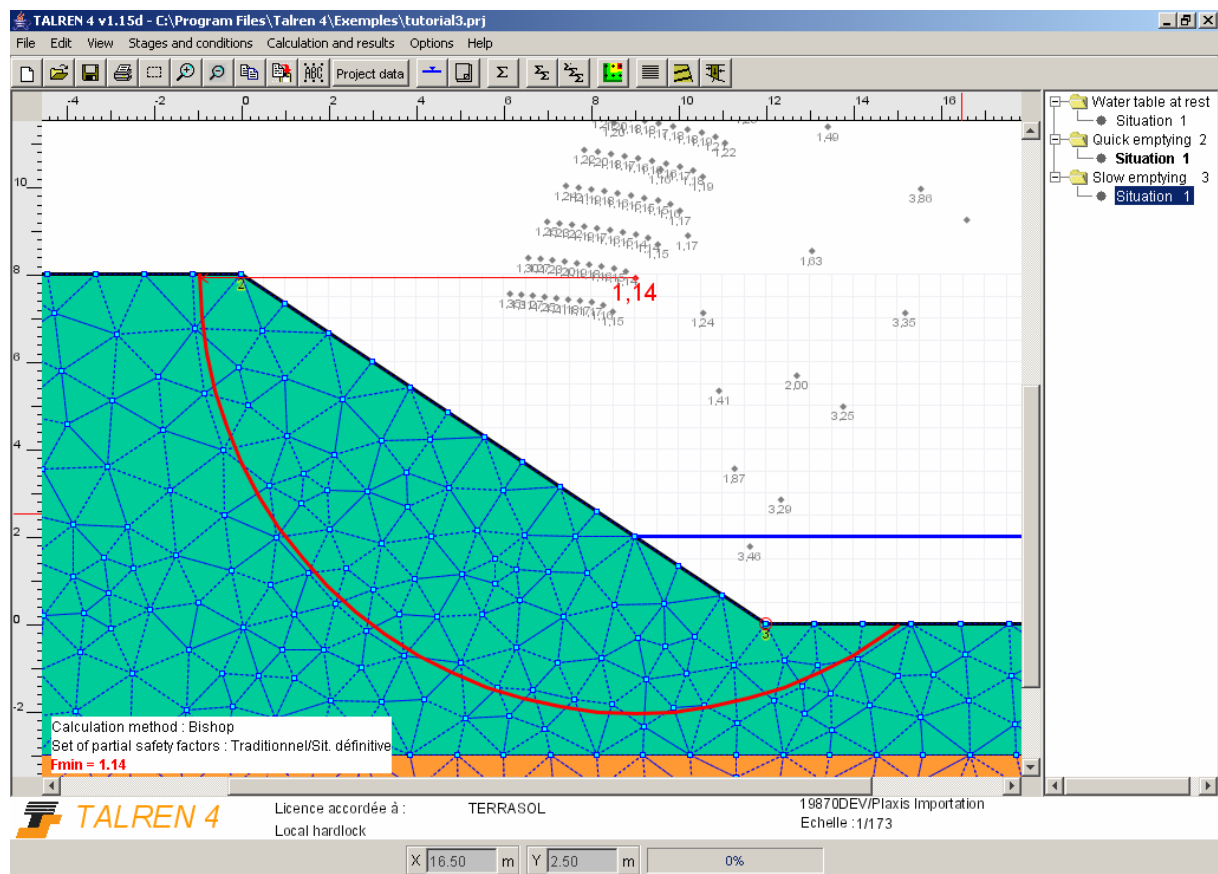

Figure 78: default output for situation 1 of stage 3
- Calculate this situation. The result is shown on Figure 78.